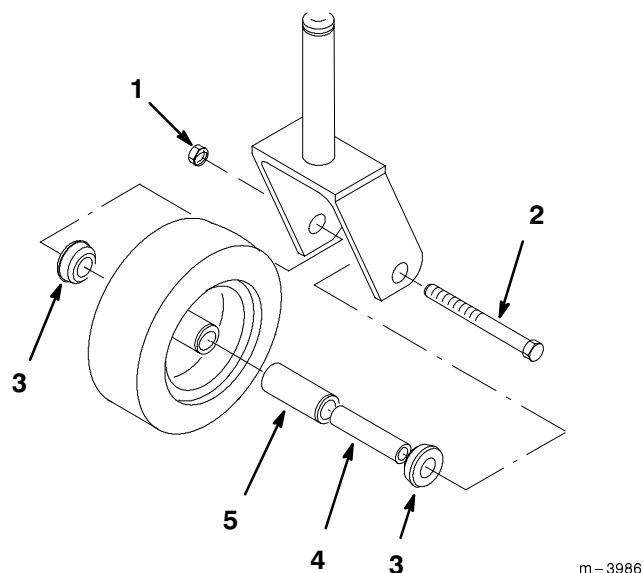

Figure 36
1. Remove the locknut and wheel bolt holding the castor wheel to the castor fork (Fig. 36).
2. Remove the bushing, then pull the spanner bushing and roller bearing out of the wheel hub (Fig. 36).
3. Remove the other bushing from the wheel hub and clean any grease and dirt from the wheel hub (Fig. 36).
4. Inspect the roller bearing, bushings, spanner bushing and inside of the wheel hub for wear. Replace any defective or worn parts (Fig. 36).
5. Install the castor wheel into the castor fork and secure with the wheel bolt and locknut. Tighten the locknut until the spanner bushing bottoms against the inside of the castor forks (Fig. 36).